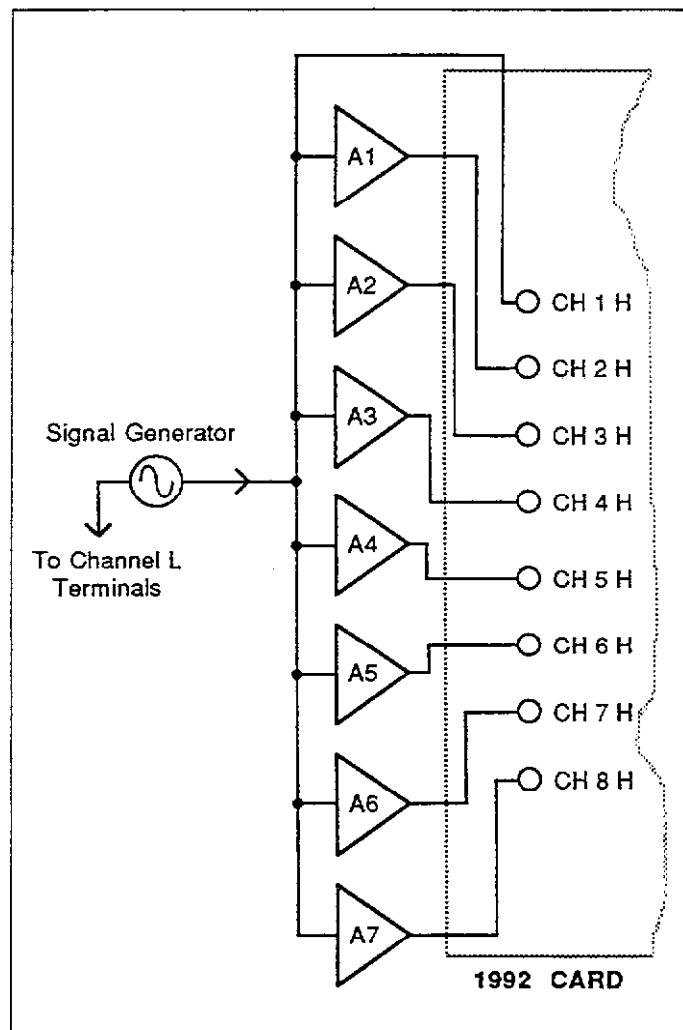
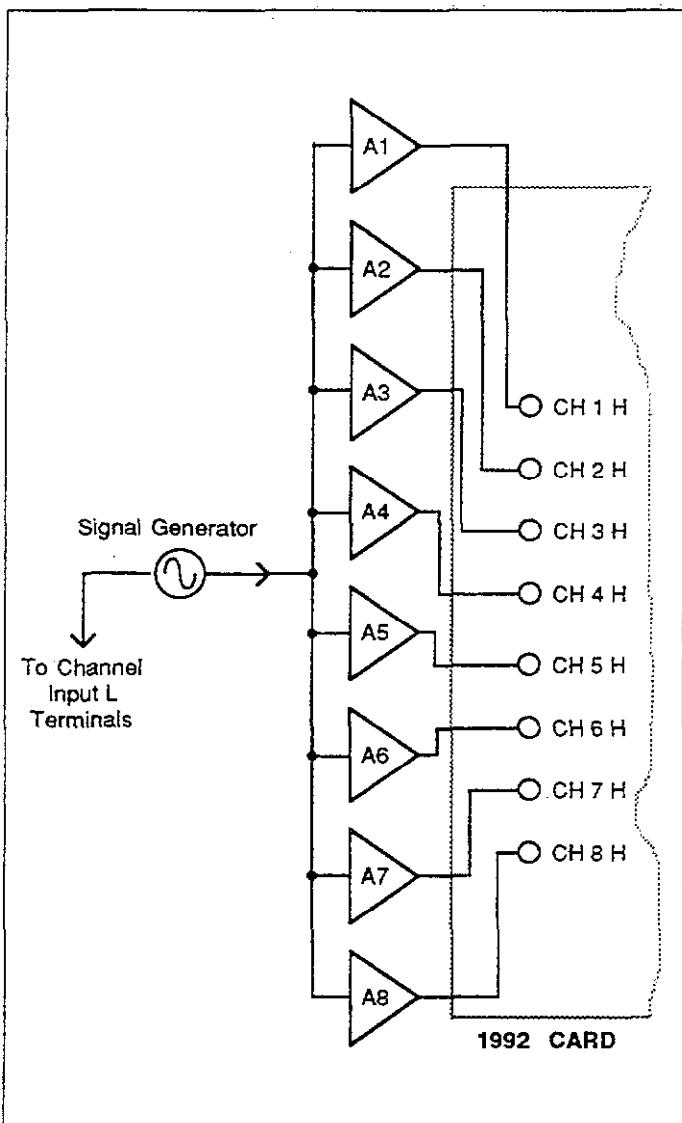

Figure 2-15. Amplifier Gain Test Configuration
Figure 2-16. Amplifier Frequency Response Test Configuration
The ratio mode used in conjunction with the scanner can be used to determine the gain of seven different amplifiers, using the test configuration shown in Figure 2-15. A signal generator is also necessary to supply the test signal to the inputs of the amplifiers, which are also connected to the channel 1 input of the scanner. Note that the outputs of the amplifiers are connected to the channels 2 through 8 inputs of the scanner. Because the maximum ratio the Model 199 can display is 10, amplifier gains are limited to that value. For higher gains, the values must be computed manually.
1. Connect the equipment together, as shown in Figure 2-15.
The test configuration discussed above can be modified somewhat to determine the bandwidth of eight amplifiers connected to the channel inputs. The equipment configuration for this test is shown in Figure 2-16. This test setup is similar to that shown in Figure 2-15.